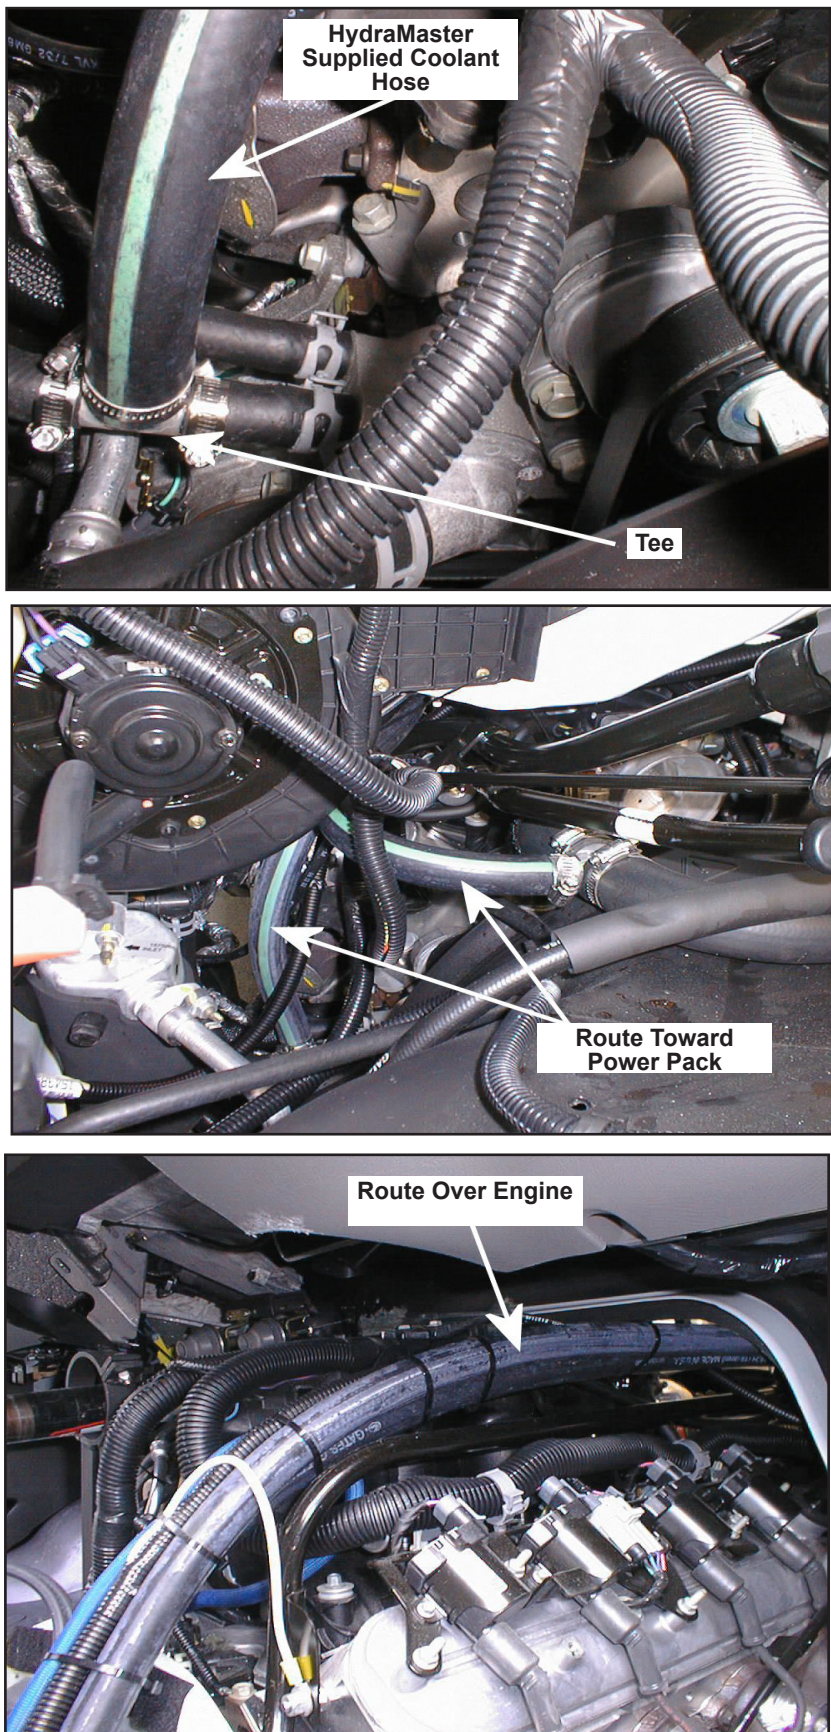

Figure 21. Secure Hoses with Provided Clamps
- g. Secure the hoses with provided clamps (see Figure 21 on the following page).